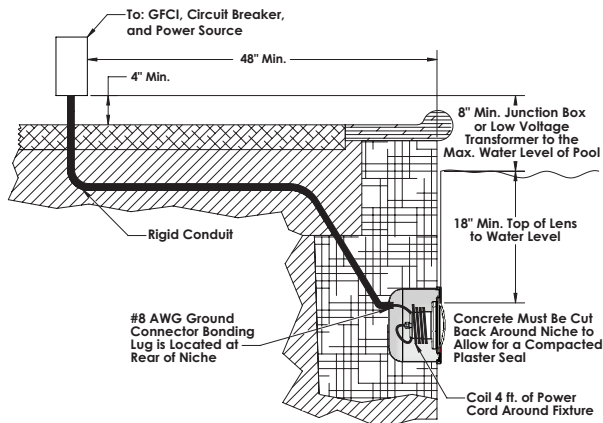

Figure 1
- A junction box or low voltage transformer is located at least 8 inches above the maximum pool water level and at least 48 inches from the pool edge; reference Figure 1.
- Proper wet niche installation with the top edge of the underwater light's lens at least 18 inches below the surface of the water in the pool and not more than 20" in Canada; reference Figure 1.
- Proper electrical wet niche bonding and grounding using the #8 AWG ground connector at the rear of the niche; reference Figure 1.
- The wet niche is properly electrically bonded and grounded via the No. 8 AWG ground connector located at the rear of the niche; see Figure 1.